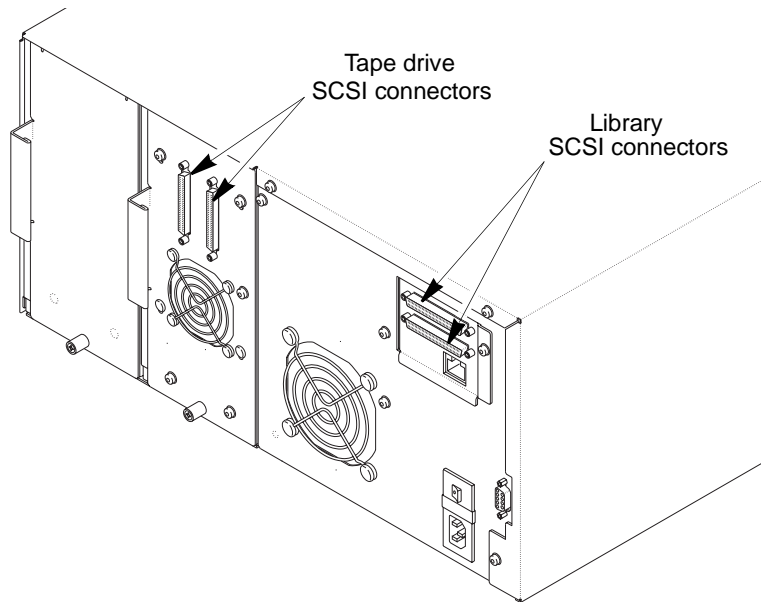

Figure 2-9 Location of library and tape drive SCSI connectors
3. Connect a SCSI cable to the host and to one of the library's SCSI connectors, shown in Figure 2-9.